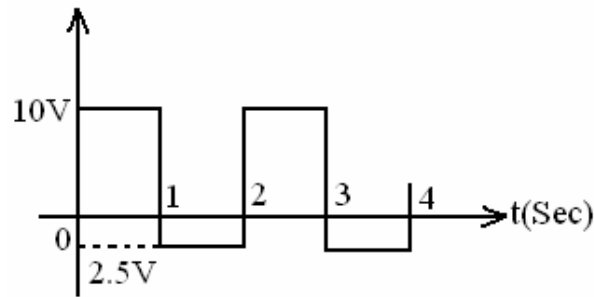

Figure 4
- 3.a) Calculate the form factor of the waveform shown below in Figure 4.